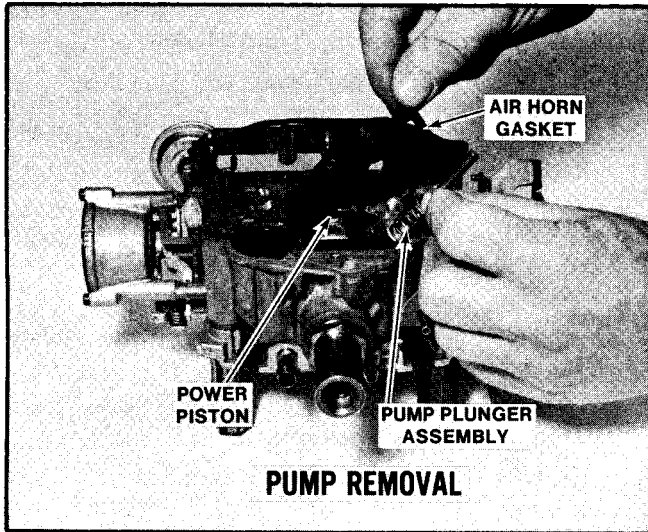

Figure 49 Pump Removal
1. Carefully lift corner of air horn gasket and remove pump plunger from pump well (Figure 49).